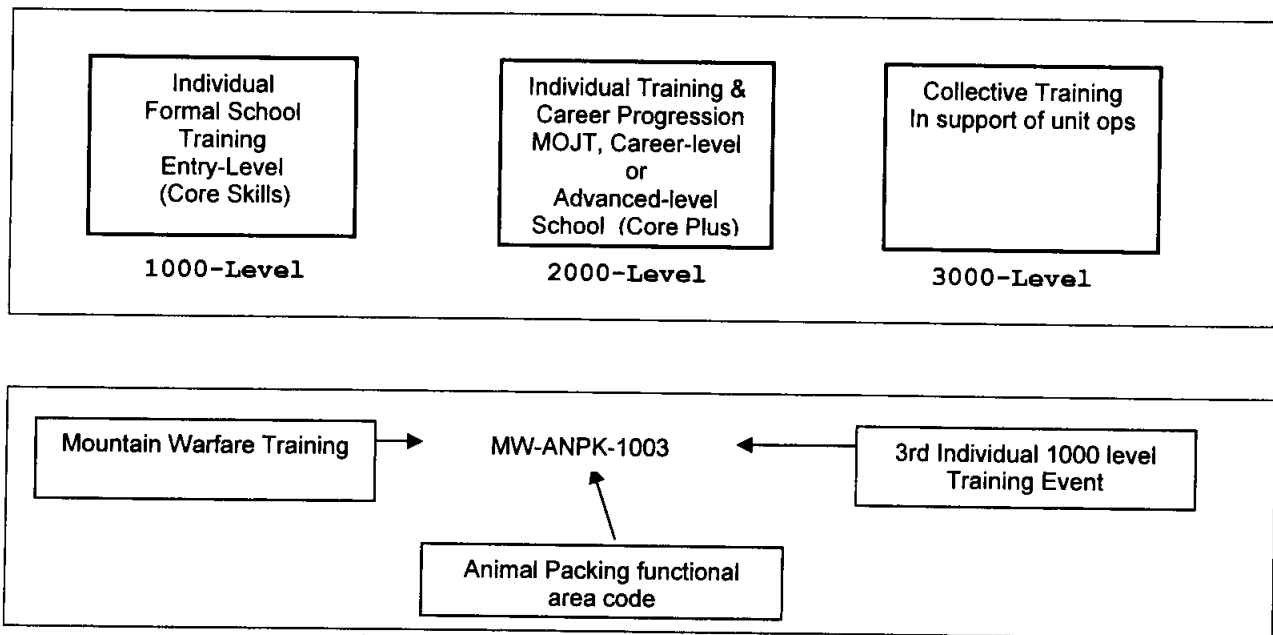

Figure 1-1. Event Levels and Coding.
**1003. T&R EVENT CODING.** T&R events are coded for ease of reference. Each event consists of a three-field designator; each field has up to 4 characters. The first field represents the Community (MW for units, and MWI for Mountain Warfare Instructors). The second field represents the functional area of the event (e.g., ANPK for Animal Packing; SERE for Survival/Evasion; etc.). The last field designates the level and sequence of the event. Figure (1) shows MCWO T&R levels and a sample MCWO T&R event. Event levels are categorized as 1000-level, 2000-level, etc. 1000-level events are individual core skills taught at the formal school. 2000-level events are core-plus skills taught at the formal school or managed on the job training (MOJT). 3000-7000 level events are collective skills that are taught at MCMWTC and reinforced at the unit level when possible. Figure 1-1 provides a detail of MCWO T&R events and coding.